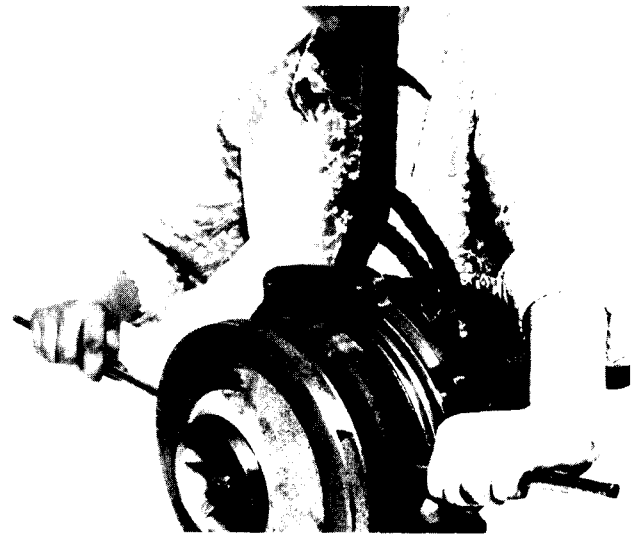

Fig. 12. Removing impeller, using two pry bars.
- l. Pry impeller No. 2 gently from shaft (Fig. 12). Remove impeller key No. 32 from keyway in shaft and inspect for damages.